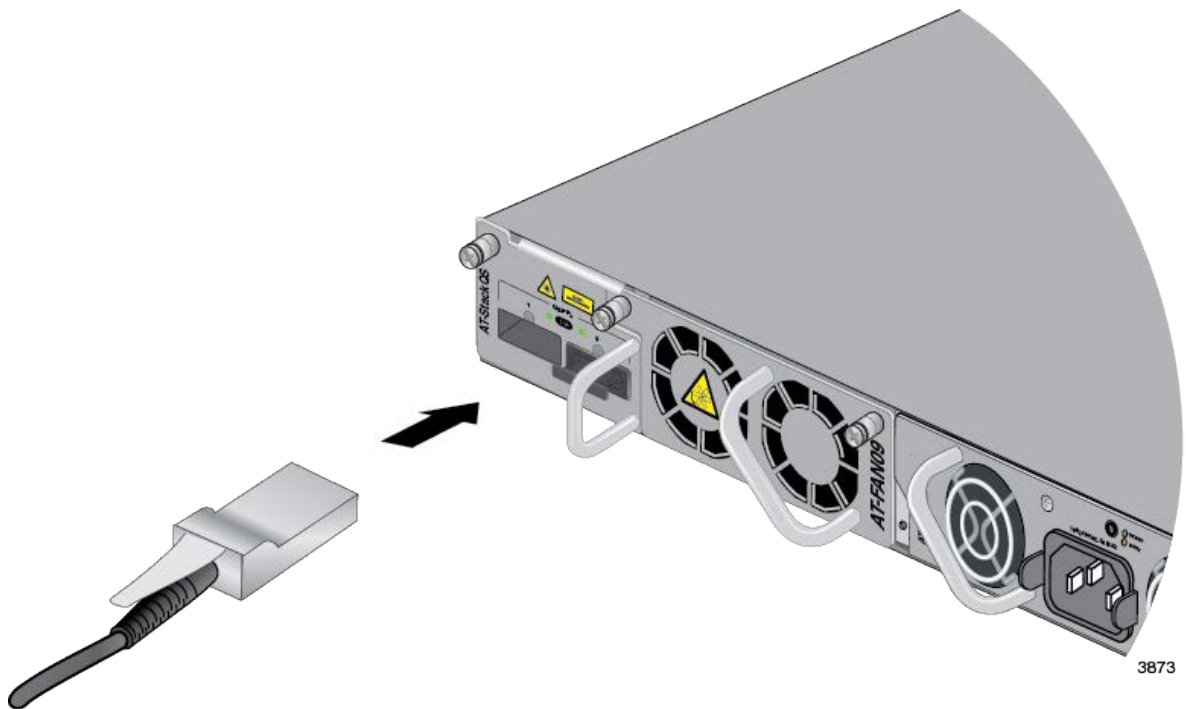

Figure 83. Installing the AT-QSFICU Cable in Port 1
2. Slide the connector on the AT-QSFPICU Cable into the port until it clicks into place. Refer to Figure 83 on page 153.